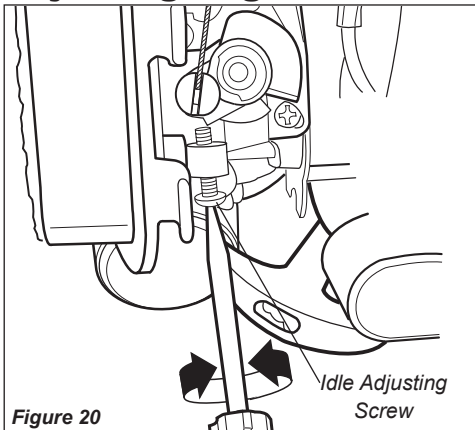

Figure 20
- If the attachment rotates when the engine is at idle, reduce the idle speed by turning the idle adjustment screw counter-clockwise. See Figure 20.